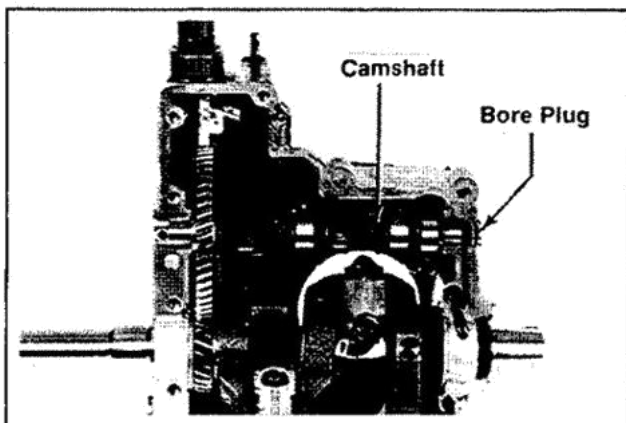

Figure 9-39. Removing The Camshaft And Camshaft Bore Plug.
1. Remove the camshaft and camshaft bore plug from the #1 crankcase side. Refer to Figure 9-39.